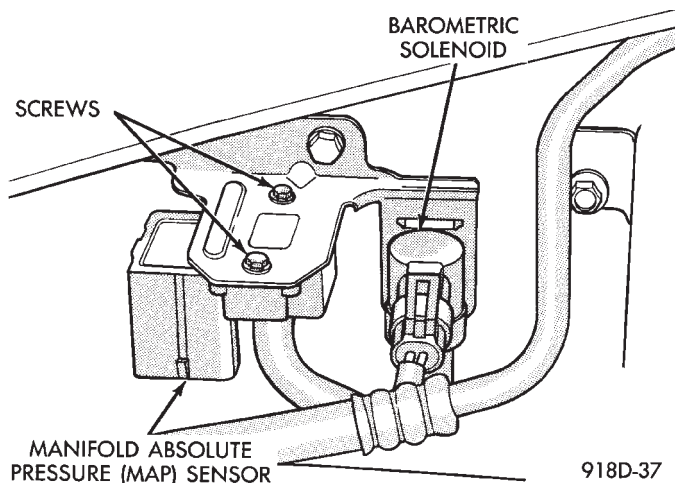

Fig. 4 Baro/MAP Solenoid Hose Connections
(4) Verify the harness connector is attached to the MAP sensor (Fig. 4).